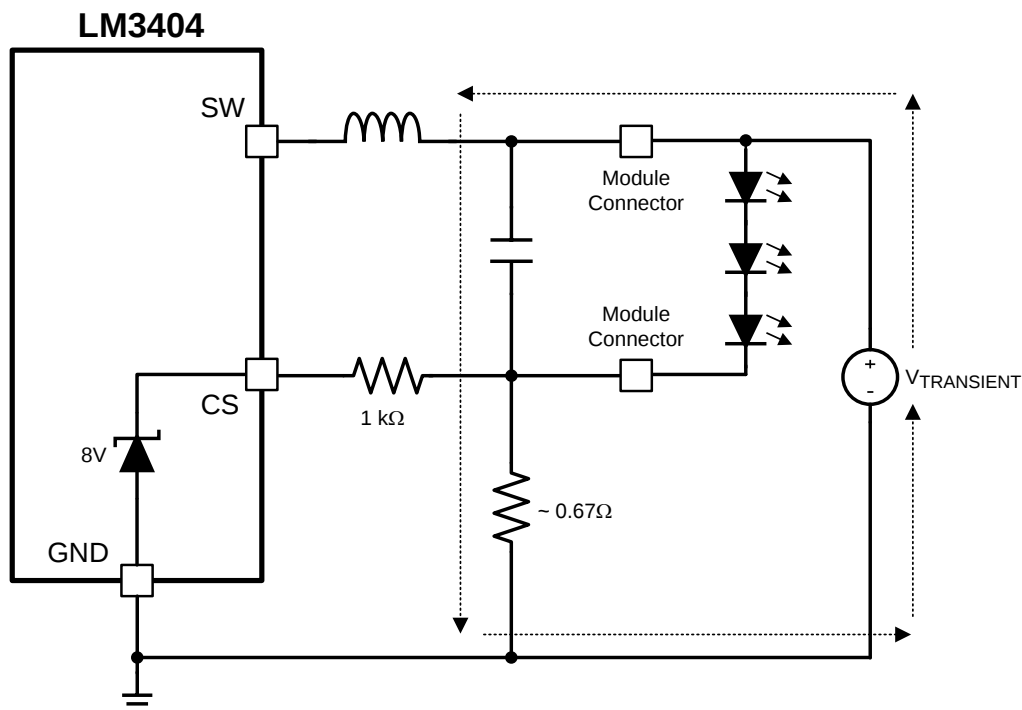

Figure 25. CS Pin, Transient Path with Protection
From measurements, we know that the 8V ESD structure on the CS pin can typically withstand 25mA of direct current (DC). Adding a 1k Ω resistor in series with the CS pin, shown in Figure 25, results in the majority of the transient energy to pass through the discrete sense resistor rather than the device. The series resistor limits the peak current that can flow during a transient event, thus protecting the CS pin. With the 1k Ω resistor shown, a 33V, 49A transient on the LED return connector terminal could be absorbed as calculated by: